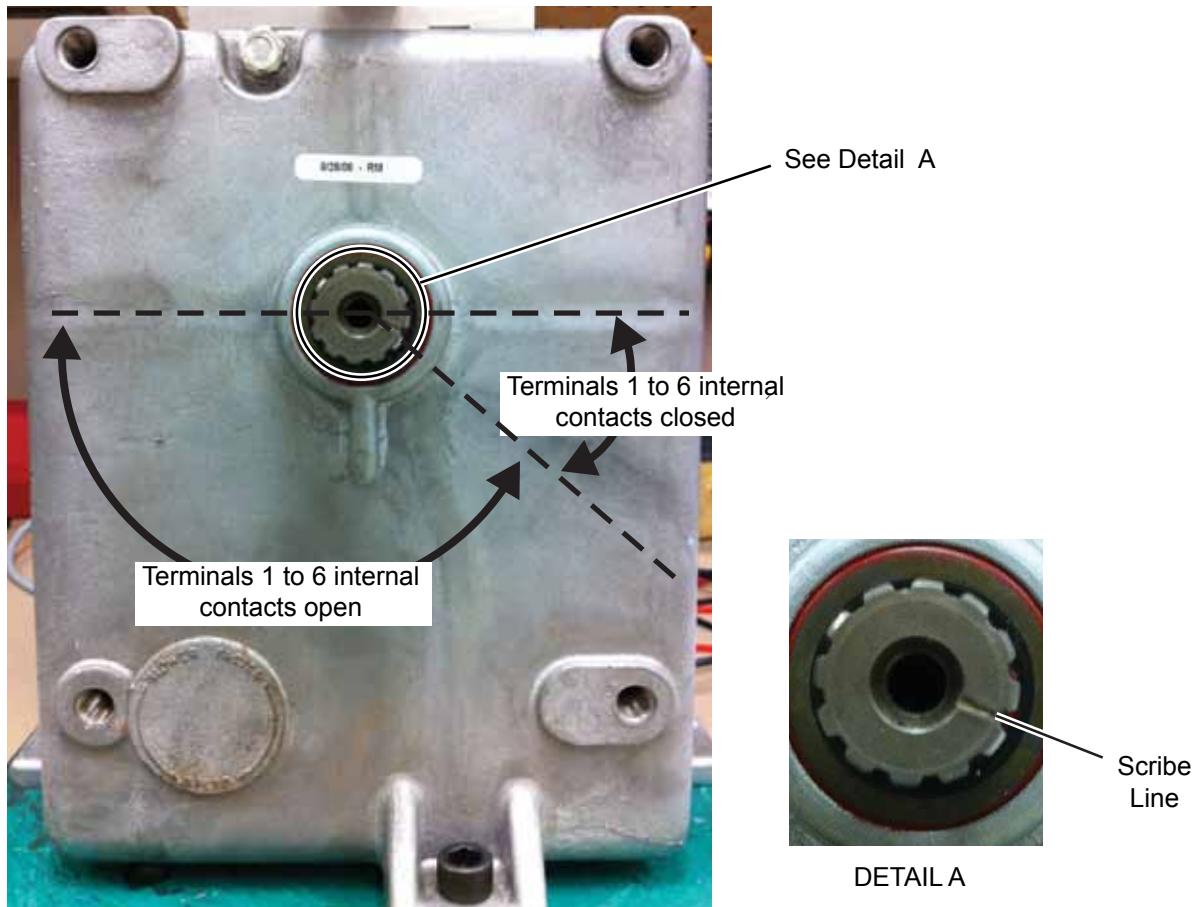

FIGURE 6 - VMS OR VGD SWITCH CLOSURE TERMINAL 1 TO 6
The auxiliary contacts are internal Normally - Open (NO) contacts on terminal 1 to 6 on the actuator terminal block (reference Wiring Diagram A, Figure 4 on page 4 of this document, and Wiring Diagram B on Figure 5 above). Notice that terminal 1 has a jumper wire 1A to L1. L1 is supplying 120 vac to terminal 1. When the vane motor actuator shaft is within 11° of being fully closed (CCW), the auxiliary contacts 1 to 6 close, supplying a 120 vac signal to terminal 6, which would then be routed to the respective control panel to indicate that the vane motor/pre-rotation vanes are in the closed position. Reference Figure 6 on page 7
On compressors that use a VGD, The auxiliary contacts are Normally open (NO) contacts on terminal 1 to 6 on the actuator terminal block (reference Wiring Diagram A, Figure 4 on page 4 of this document, and Wiring Diagram B on Figure 5 above). Notice that terminal 1 has a jumper wire (1A) to L1. The L1 terminal is supplying 120 vac to terminal 1. When the VGD actuator motor shaft is within 11° of being fully closed (CCW), the auxiliary contacts 1 to 6 close, supplying a 120 vac signal to terminal 6, which would then be routed to the respective control panel to indicate that the VGD is in the closed (extended) position. Reference Figure 6 on page 7.
8. Jumper terminals X to 2 on the actuator terminal block. While monitoring continuity from terminals 1 to 6 on the actuator terminal block with an ohmmeter, connect 120 vac to terminals L1 and L2 on the actuator terminal block. Referencing Figure 6 on page 7, the scribe line or short tooth on the shaft should rotate Counter-Clockwise (viewed from the shaft end). Terminals 1 to 6 internal contacts should be closed in the area shown on Figure 6, then remain open for the remainder of the actuator Clockwise stroke. **If the contacts do not open or close in the areas shown on Figure 6, the actuator has failed.**
16. While monitoring continuity from terminals 1 to 6 on the actuator terminal block with an ohmmeter, connect 120 vac “hot” to terminal 2 and 120 vac “common” to L2 on the actuator terminal block. Referencing Figure 6 on page 7, the scribe line or short tooth on the shaft should rotate Counter-Clockwise (viewed from the shaft end). Terminals 1 to 6 internal contacts should be closed in the area shown on Figure 6, then remain open for the remainder of the actuator Clockwise stroke. **If the contacts do not open or close in the areas shown on Figure 6, the actuator has failed.**